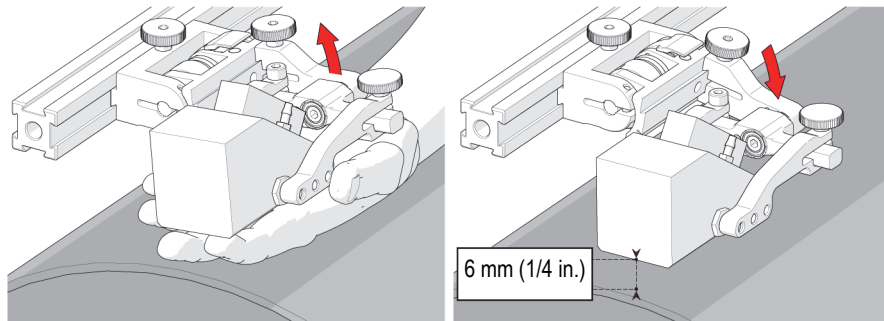

Figure 2-31 Lift up to latch and lower on scanning surface
1. Ensure the probe holder is in latched, upper position (see Figure 2-31 on page 59). If the probe holder is already latched, it will only move within the slip joint adjustment range and have no spring tension.
2. Push the probe holder yoke down toward the inspection surface until the wedge is approximately 6 mm ($\frac{1}{4}$ in.) above the inspection surface (see Figure 2-31 on page 59).